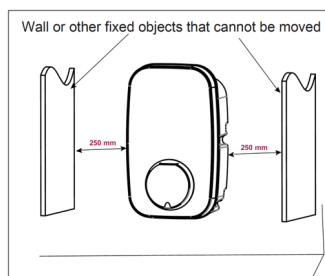

Fig. 5
- Recommendation: minimum lateral clearance of 250 mm on each side. Fig. 5.